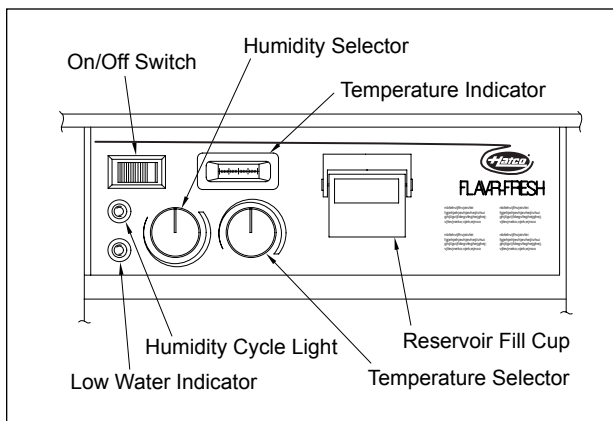

Figure 7. Flav-R-Fresh Control Panel
2. Place the power switch in the “on” position. The humidity cycle and low water indicators will light up at this time. See Figure 7.
3. Fill the water reservoir with **softened** or **distilled** water. To fill the reservoir, lift up the fill cup cover and pull forward. See Figure 7. Slowly pour the water into the cup until the red light for low water indication goes off.